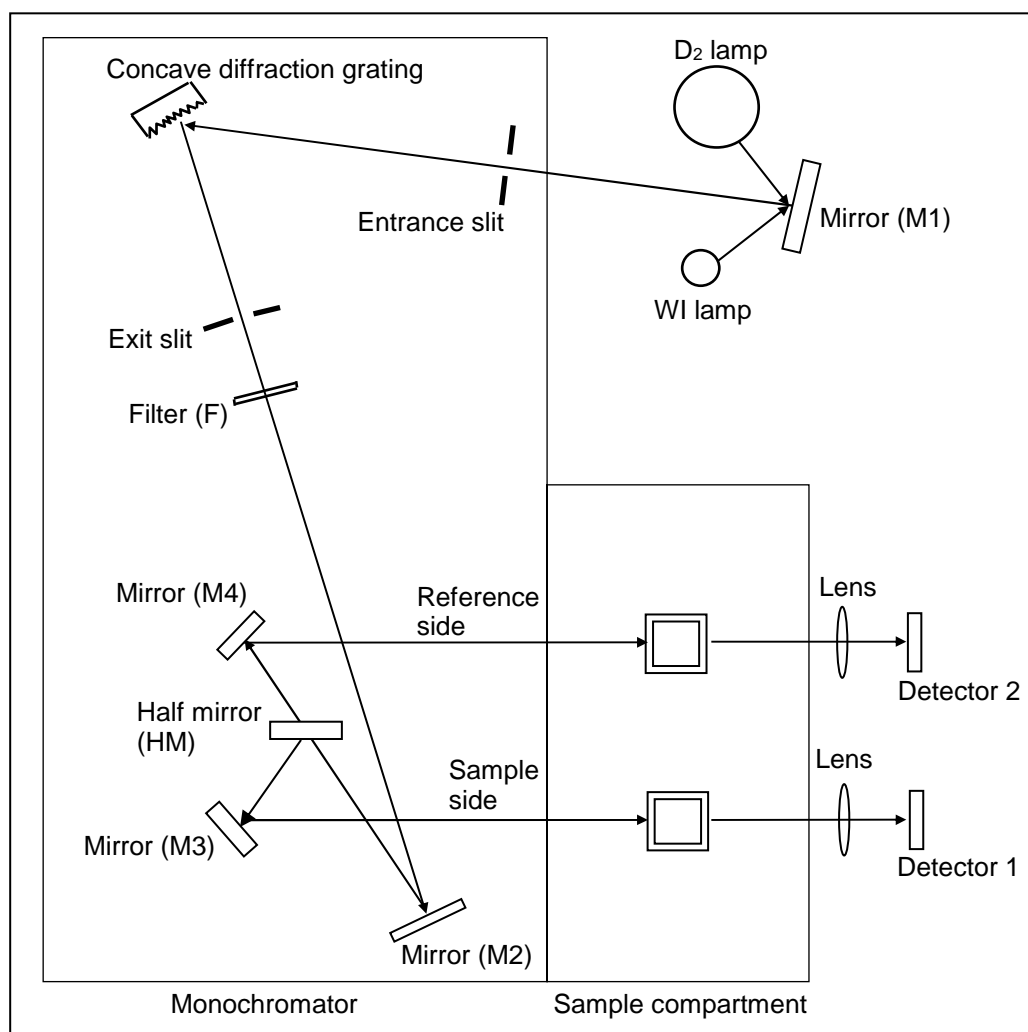

Fig. 2-5 Optical System of Model U-2910 Spectrophotometer
Fig. 2-5 shows the optical system of Model U-2910. The white light emitted from the light source is led to the monochromator of Seya-Namioka mount that utilizes a concave diffraction grating (with grating constant of $1/600$ mm, blaze wavelength of 250 nm, and diffraction area of $20 \text{ mm} \times 25 \text{ mm}$), where it is transformed into a monochromatic beam. The beam from the monochromator then passes through a filter, toroidal mirror (M2), and is separated into sample beam and reference beam by half mirror (HM). The sample beam that has passed through the sample in the sample compartment enters a detector, where it is converted into electric signal. The reference beam also passes through the sample and enters a detector in the same way, and this signal is used as a reference in photometry.